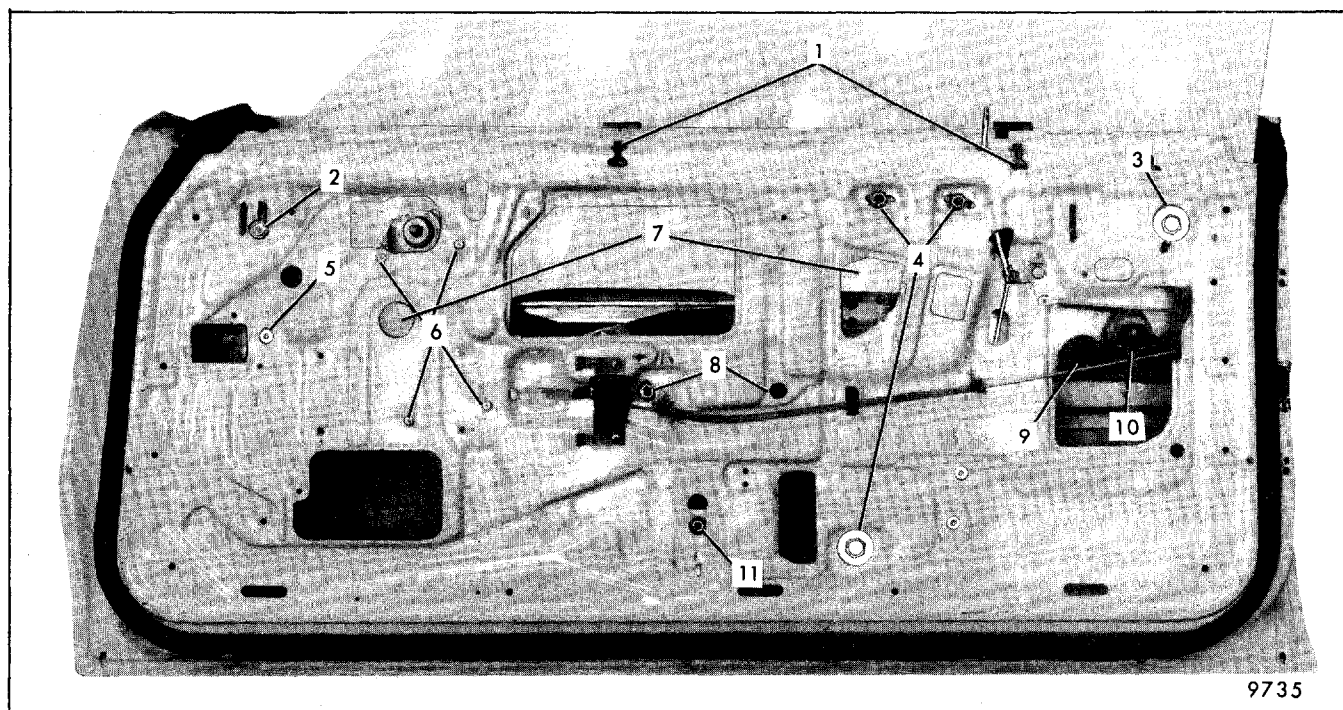

Fig. 5-110-Front Door Window Hardware Attachments - A Coupe Styles
In the following steps, the numbers in parentheses refer to items in Figure 5-110. Door armrest cover, upper and lower trim panels must be removed and insulator pad (if so equipped) and water deflector detached before making adjustments. After making adjustments, tighten all loosened attachments to 8 N·m (72 in-lb).
1. WINDOW ROTATED - Loosen up-stops (2 and 3, Fig. 5-110) adjust inner panel cam (8, Fig. 5-110) as required and tighten attaching screws.
2. WINDOW UPPER EDGE INBOARD OR OUTBOARD - Loosen vertical guide upper support (lower) screws (27, Fig. 5-68, accessible through inner panel access holes) and nylon stabilizer guide/up-stop screw (10, Fig. 5-110). Adjust vertical guide upper support (28, Fig. 5-68) in or out as required and tighten attaching screws. Adjust and tighten other loosened components. Make sure glass remains inboard of blow-out clip when cycled.
3. WINDOW TOO FAR FORWARD OR REARWARD - Loosen vertical guide upper and lower screws (4, Fig. 5-110) and adjust as required.
4. WINDOW TOO HIGH OR LOW IN UP POSITION - Adjust front and rear up-travel stops (2 and 3, Fig. 5-110) as required.
5. **WINDOW TOO HIGH OR LOW IN DOWN POSITION** - Adjust down-travel stop (11, Fig. 5-110) as required.
6. **WINDOW BINDS** - Ease of window operation and stability depend to a great extent on belt trim retainers (1, Fig. 5-110). Contact should be sufficient to stabilize glass but not restrict window operation.
In the following procedure, the numbers in parentheses refer to component attachments in Figure 5-110. Mark locations of attachments prior to loosening or removing hardware components. When reinstalling hardware components, tighten all attachments to 8 N·m (72 in-lb).
- a. Front and rear belt trim support retainers (1, Fig. 5-110).
- b. Front up-travel stop (2, Fig. 5-110).
- c. Stabilizer/up-stop assembly (9, Fig. 5-110, on glass).
3. Remove vertical guide upper and lower attaching screws (4, Fig. 5-110) disengage guide assembly from roller and lay guide in bottom of door.
4. Position glass to expose lower sash channel cam attaching nuts through inner panel access holes (7, Fig. 5-110), then remove nuts.